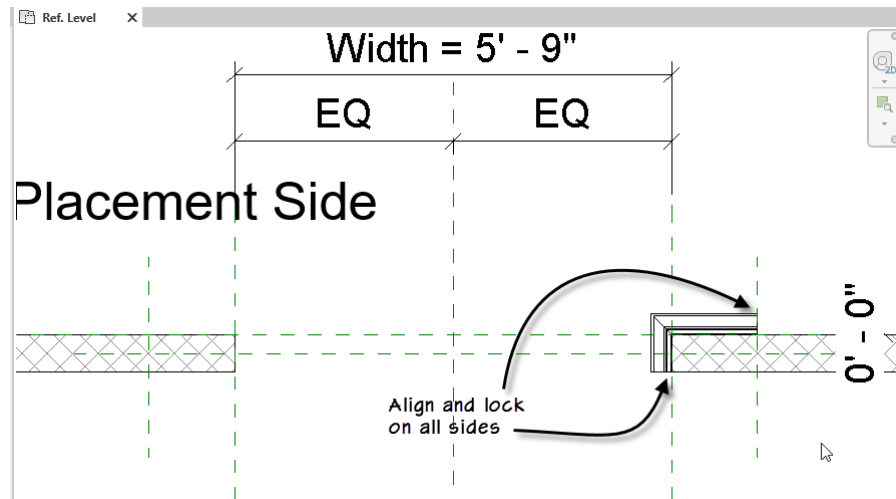

Figure 65—Place one of the molding families and align and lock all around
- ⇒ Align and lock the Right reference in the family to the Left Impost Extent reference plane (see Figure 65).